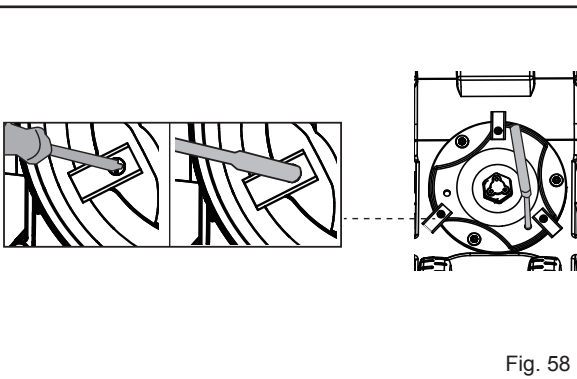

Fig. 58
- Wear protective gloves and use a screwdriver or hexagonal socket wrench to remove all three screws and blades (Fig. 58).